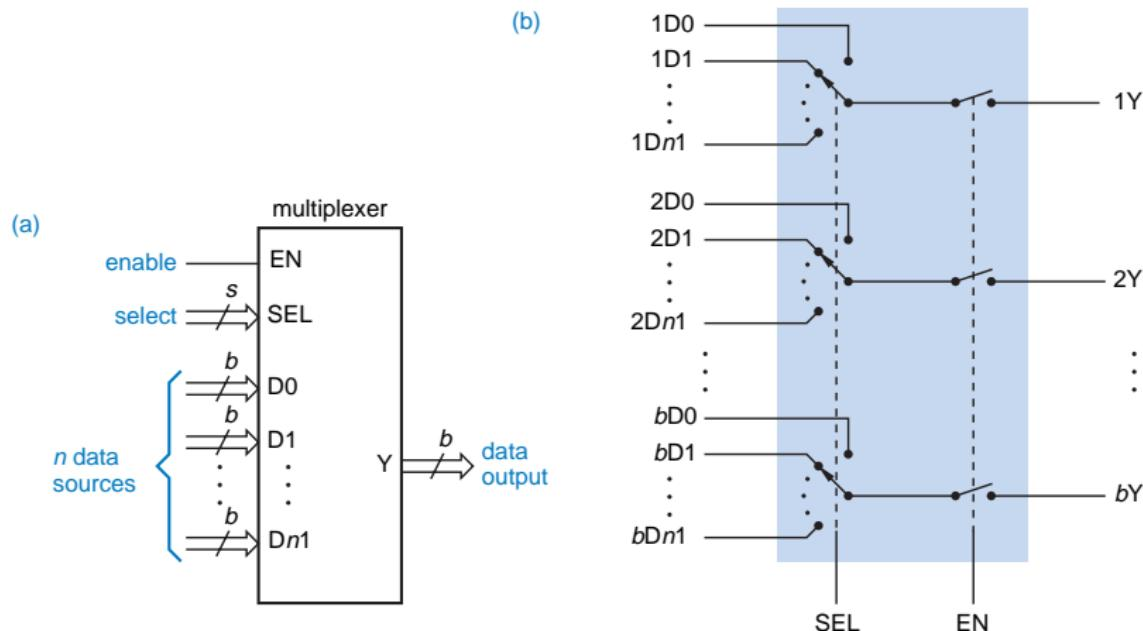

Figure 24: Multiplexer structure: (a) inputs and outputs; (b) functional equivalent.
- Fig. 24(a) shows inputs and outputs of an  $n$ -input,  $b$ -bit multiplexer